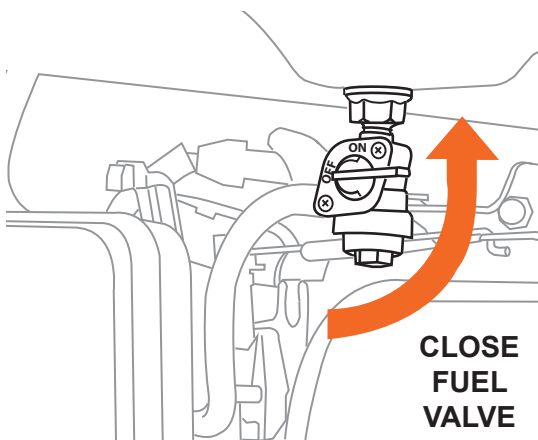

Figure 9
- 14.** Turn the fuel valve to the OFF position (see Figure 9).